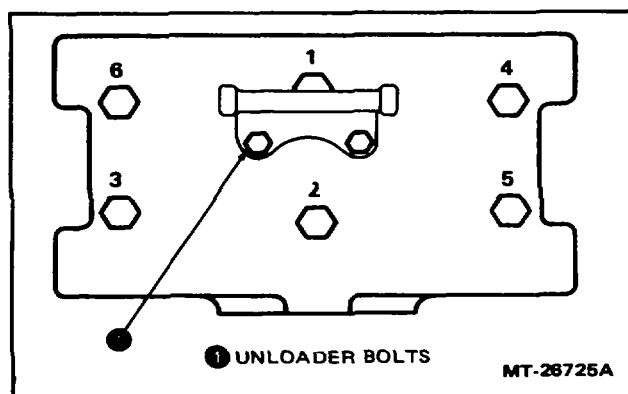

Figure 15 - Cylinder Head Bolt-Tightening Sequence
2. Assemble the six cylinder head bolts and tighten them in sequence shown in Figure 15. Head bolts are to be tightened in two steps according to Torque Chart in this Section. **PAGE 2298**